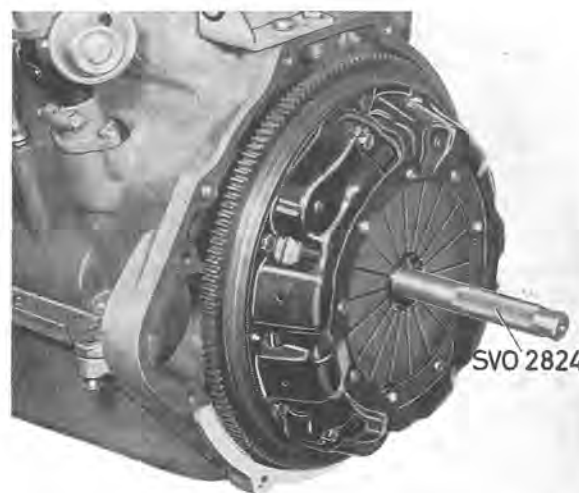

Fig. 4-8. Installing clutch
1. Set up the clutch plate (the longest side of the hub facing backwards) together with the clutch against the flywheel and insert the centering mandrel 2824 so that the guide journal on this centers the pilot bearing in the flywheel, see Fig. 4-8.